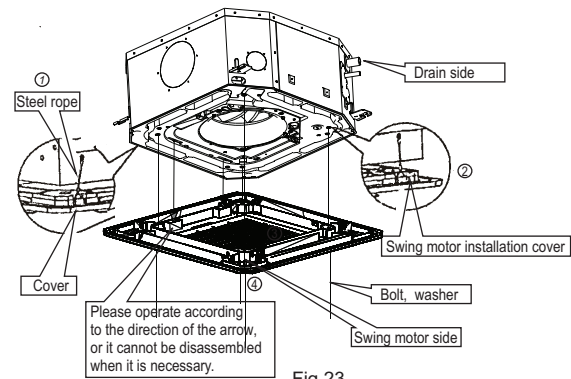

Fig.23
(2) Install the panel
- Align the swing motor on the panel to the water receiver of the body properly. (Refer to Fig.23)
- Hang the four fixed ropes of the main body to the installation cover and the other three covers of the swing motor: (Refer to Fig.23)
- Install the panel on the main body with bolt (M5×16) and washer. (Refer to Fig.23)